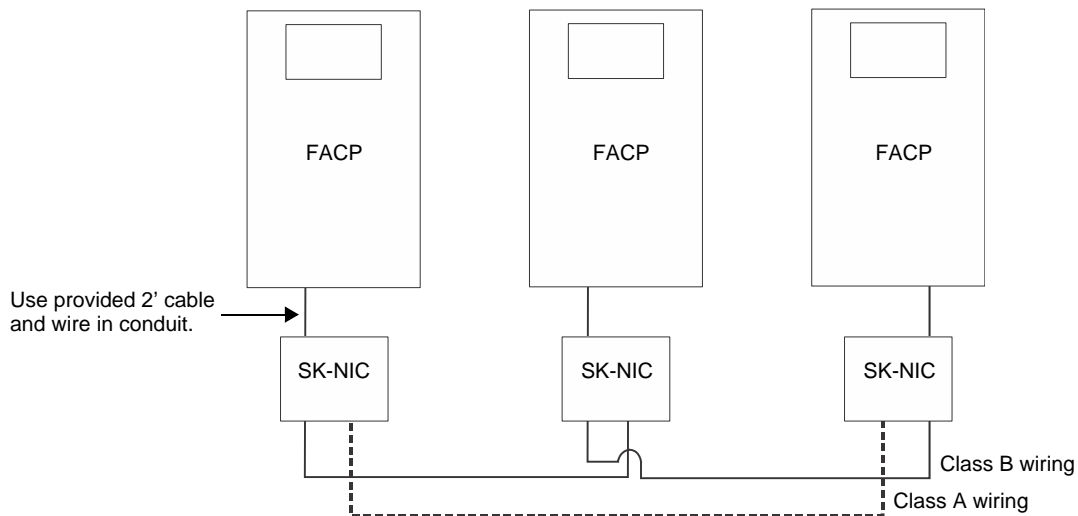
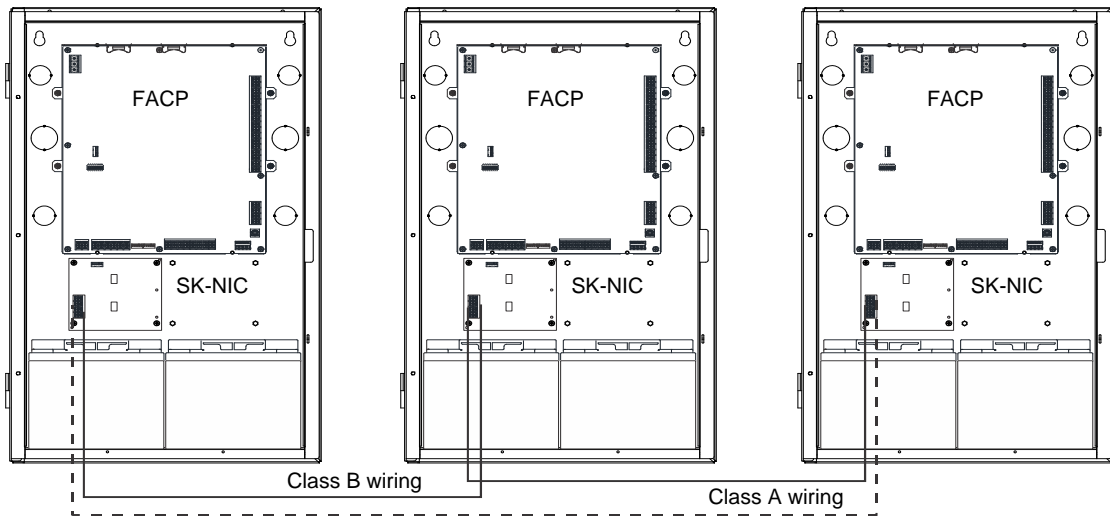

Figure 5.1 External SK-NIC Wiring Option
Figure 5.2 Internal SK-NIC Wiring Option
When networking a group of IFP-300 you must use the SK-NIC to link the panels together. See Figure 5.1 and Figure 5.2, for Internal mounting or external mounting of SK-NIC options
1. Align the SK-NIC over the standoffs on the back of the IFP-300 cabinet and secure with supplied screws. Refer to Figure 5.2 for location of standoffs.
Follow the steps above except, the 6-pin cable that runs from the SK-NIC to the IFP-300 must be run in conduit. Refer to Figure 5.1.